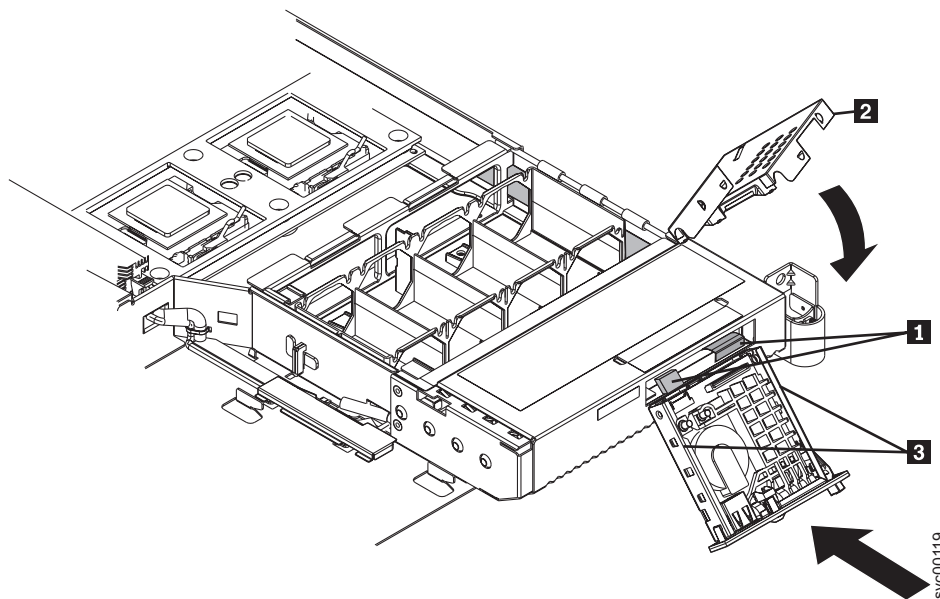

Figure 229. Replacing the operator-information panel
1. Plug in the two cables on the rear of the assembly **1**. See Figure 229.